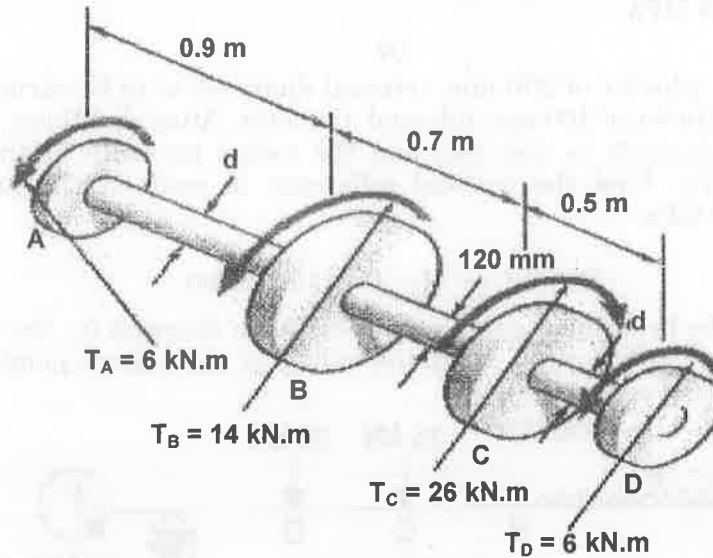

Figure. 3
- The maximum stress in the beam. (4)
- If the value of E for the beam materials is 200 GPa, find out the radius of curvature for that portion of the beam where the bending is maximum. (4)
- The value of longitudinal stress at a distance of 65 mm from the top surface of the beam. (5)
13. (a) Shaft BC is hollow with inner and outer diameters of 90 mm and 120 mm, respectively. Shafts AB and CD are solid and of diameter d . For the loading shown in Figure. 3, determine
- the maximum and minimum shearing stress in shaft BC, (7)
- the required diameter d of shafts AB and CD if the allowable shearing stress in these shafts is 65 MPa. (6)